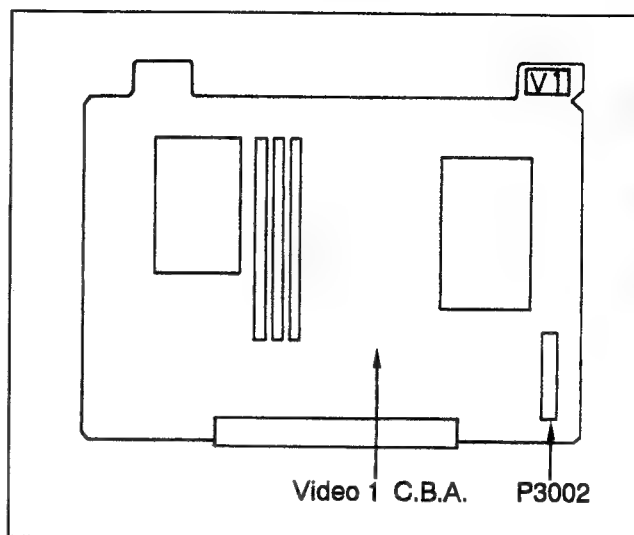

Figure D12
2. Carefully pull out the Video 2 C.B.A. (Figure D12.).